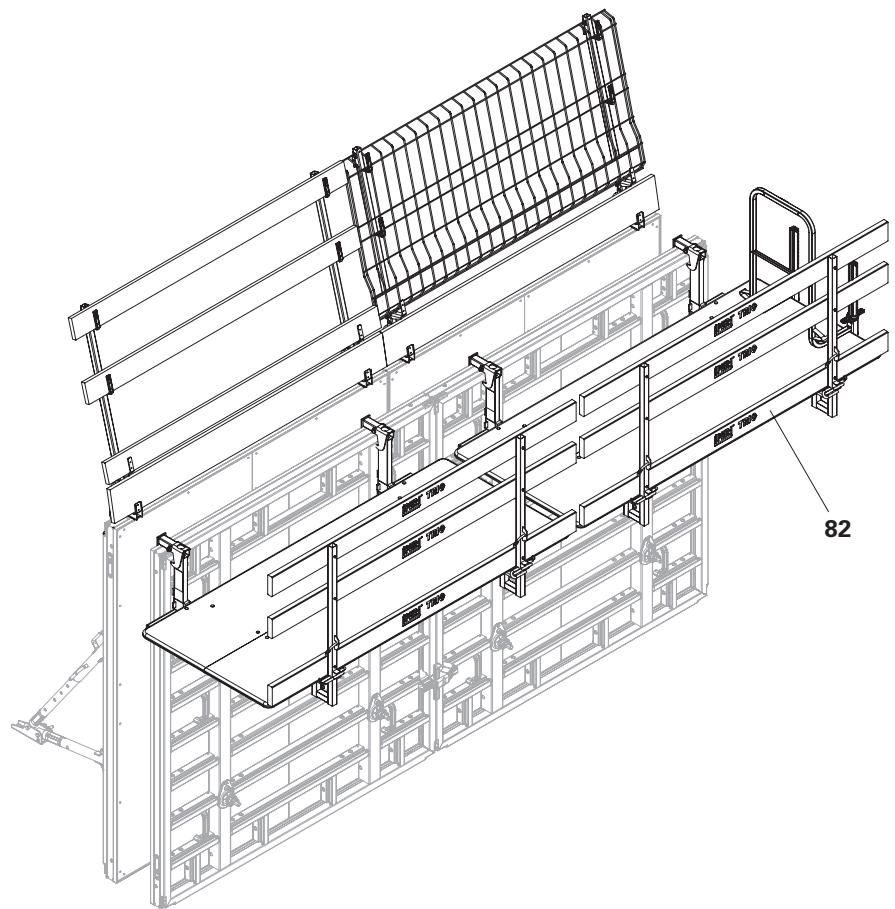

Fig. A13.14
- Shown: Height 2.70 m (Fig. A13.14)